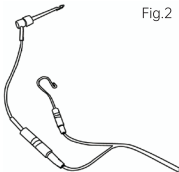

Fig.2
2) Connect the file clip: connect the plug of the file clip to either plug of the measuring wire. Connect the lip hook: connect the lip hook to the other plug of the measuring wire. (Fig.2)